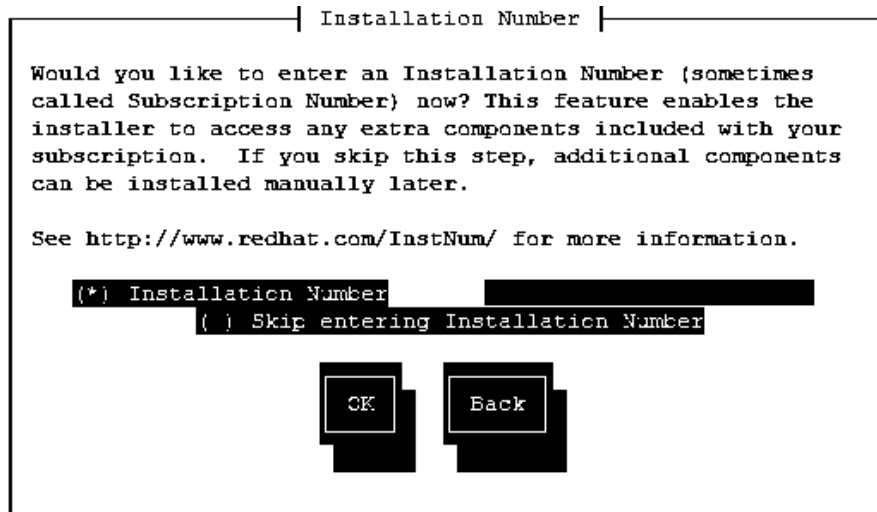

Figure 8-15 Installation number panel
12. Enter the installation number in Figure 8-15 on page 348. Click **OK** to confirm.